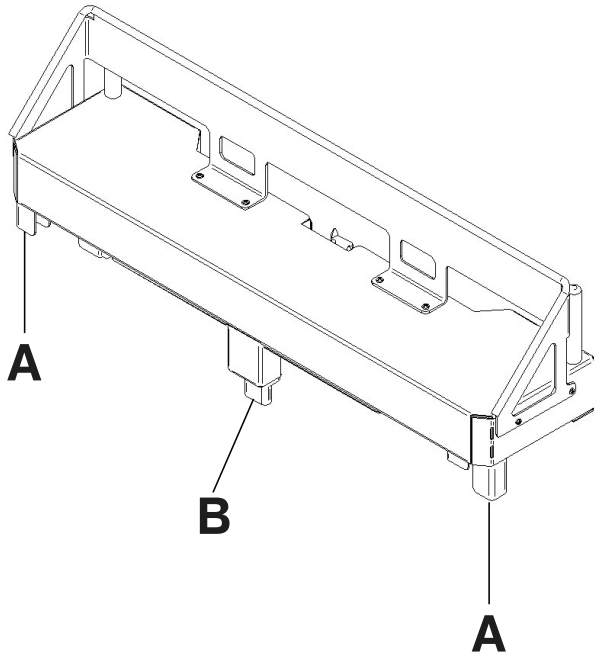

Figure 118: Attaching the optional bed extender
3. Insert the optional bed extender legs (A) and the footboard connector (B) onto the foot end of the product (Figure 118 on page 106).